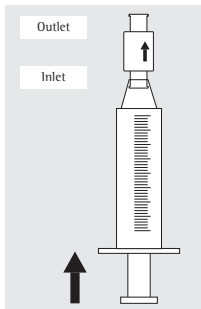

Fig 3. Filling the ReadyToProcess Adsorber Pico capsule with a Luer syringe
2. Hold the capsule upright (outlet is up) and expel air as shown in Fig 3, on page 25. Then connect the syringe to outlet and purge in the opposite direction to remove very small air bubbles.